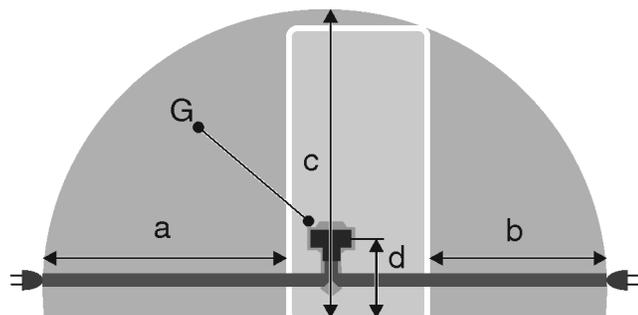

Fig. 27*
- ▶ Insert the appliance plug *Fig. 27 (G)* on the rear side of the appliance. Ensure that they latch into place correctly.
- The socket is not located behind the appliance but in areas a or b *Fig. 27 (a, b, c)*.